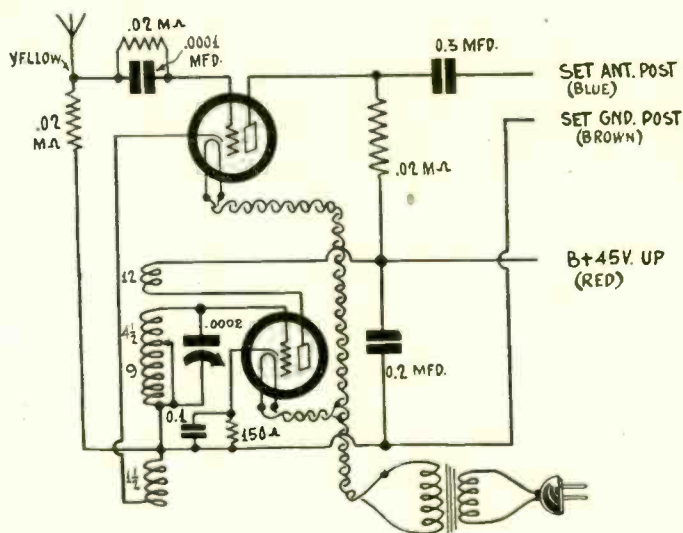
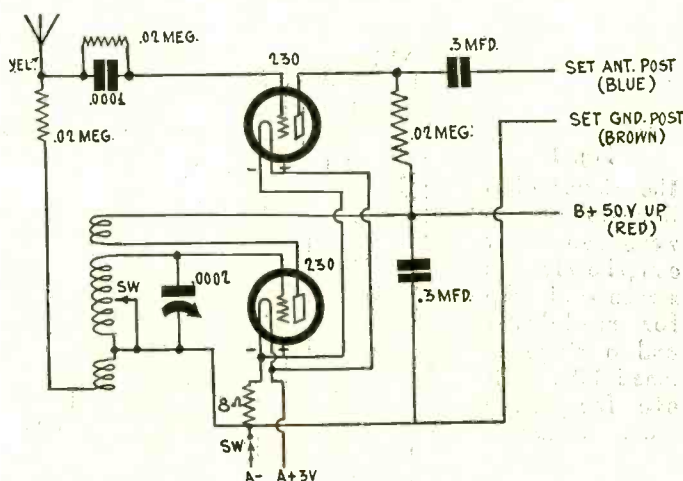

Fig. 1
Fig. 4
**T**HREE models of the two tube short-wave converter diagrammed in Fig. 1 were built up and submitted to as many radio fans, not technicians in any sense, and two of them reported the reception of European stations while the other complained he could not reach any farther than San Francisco from New York City.
Due to the use of resistance coupling, the model therefore is called RC, there being the AC design, RC-27, as in Fig. 1, and the battery companion, RC-30, which works just as well, diagrammed in Fig. 4.